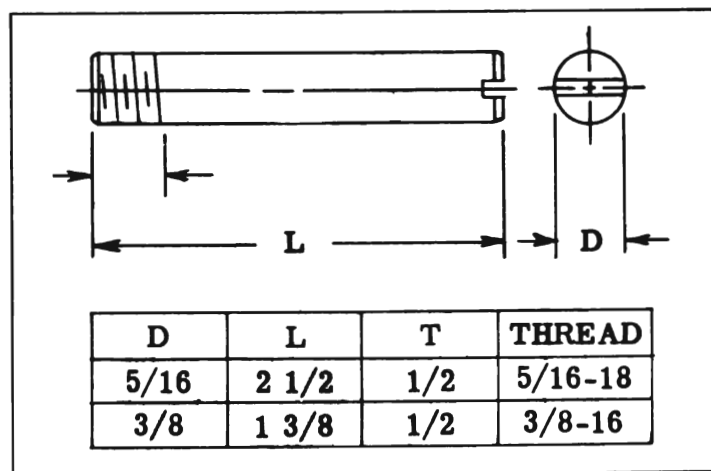
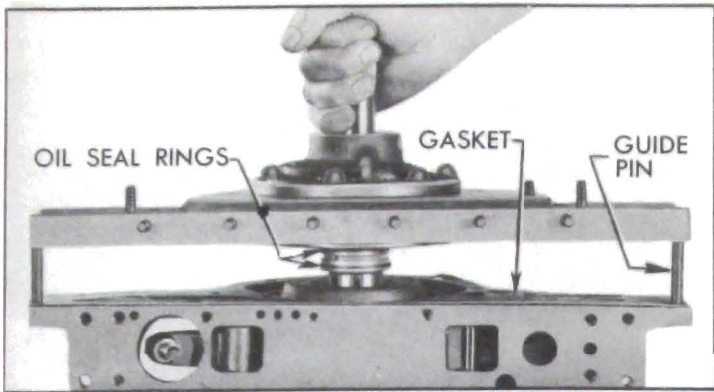

Figure 5-87—Guide Pins
Figure 5-95—Installing Reaction Shaft Flange and Gasket
6. Prepare two  $\frac{5}{16}$ "x $2\frac{1}{2}$ " guide pins and two  $\frac{3}{8}$ "x $1\frac{3}{8}$ " guide pins with screwdriver slot in plain end, as shown in figure 5-87. These will be used for alignment of parts during assembly.
1. Install a  $\frac{5}{16}$ " guide pin (fig. 5-87) in accumulator bolt hole at each end of flange on transmission case. See figure 5-95.
4. Make certain that oil seal rings are on flange hub, then install flange assembly on case using care to avoid damaging oil seal rings. See figure 5-95.
Install two  $\frac{5}{16}$ " guide pins (fig. 5-87) in transmission case to guide each end of servo body, and install servo body spacer plate gasket over guide pins.